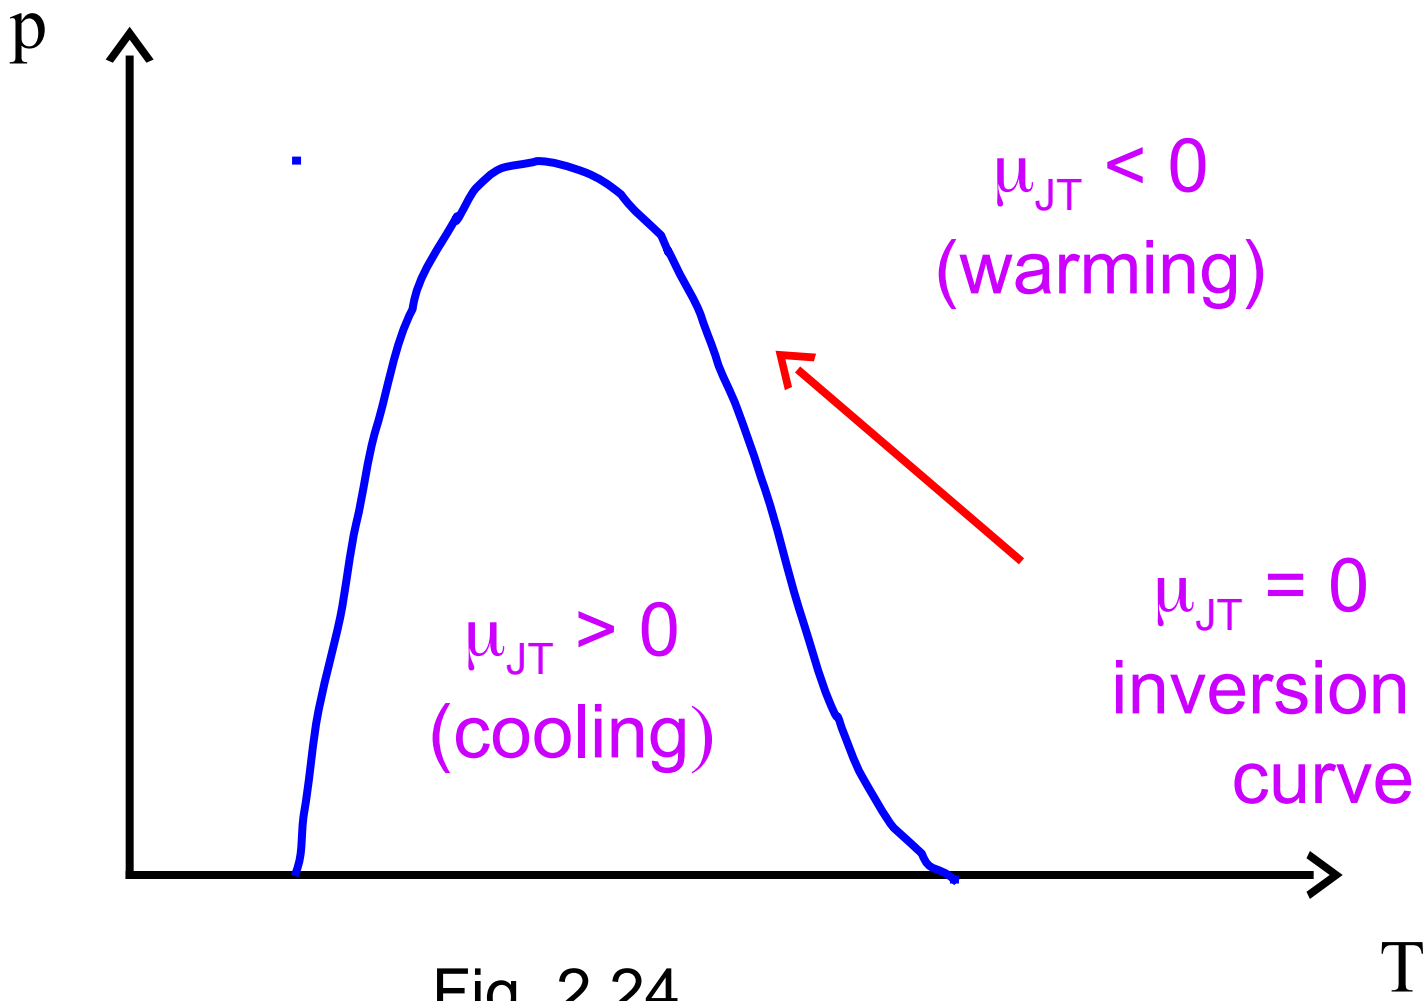

Fig. 2.24
*This statements can clearly understandable on a p-T diagram (Fig. 2.24).*